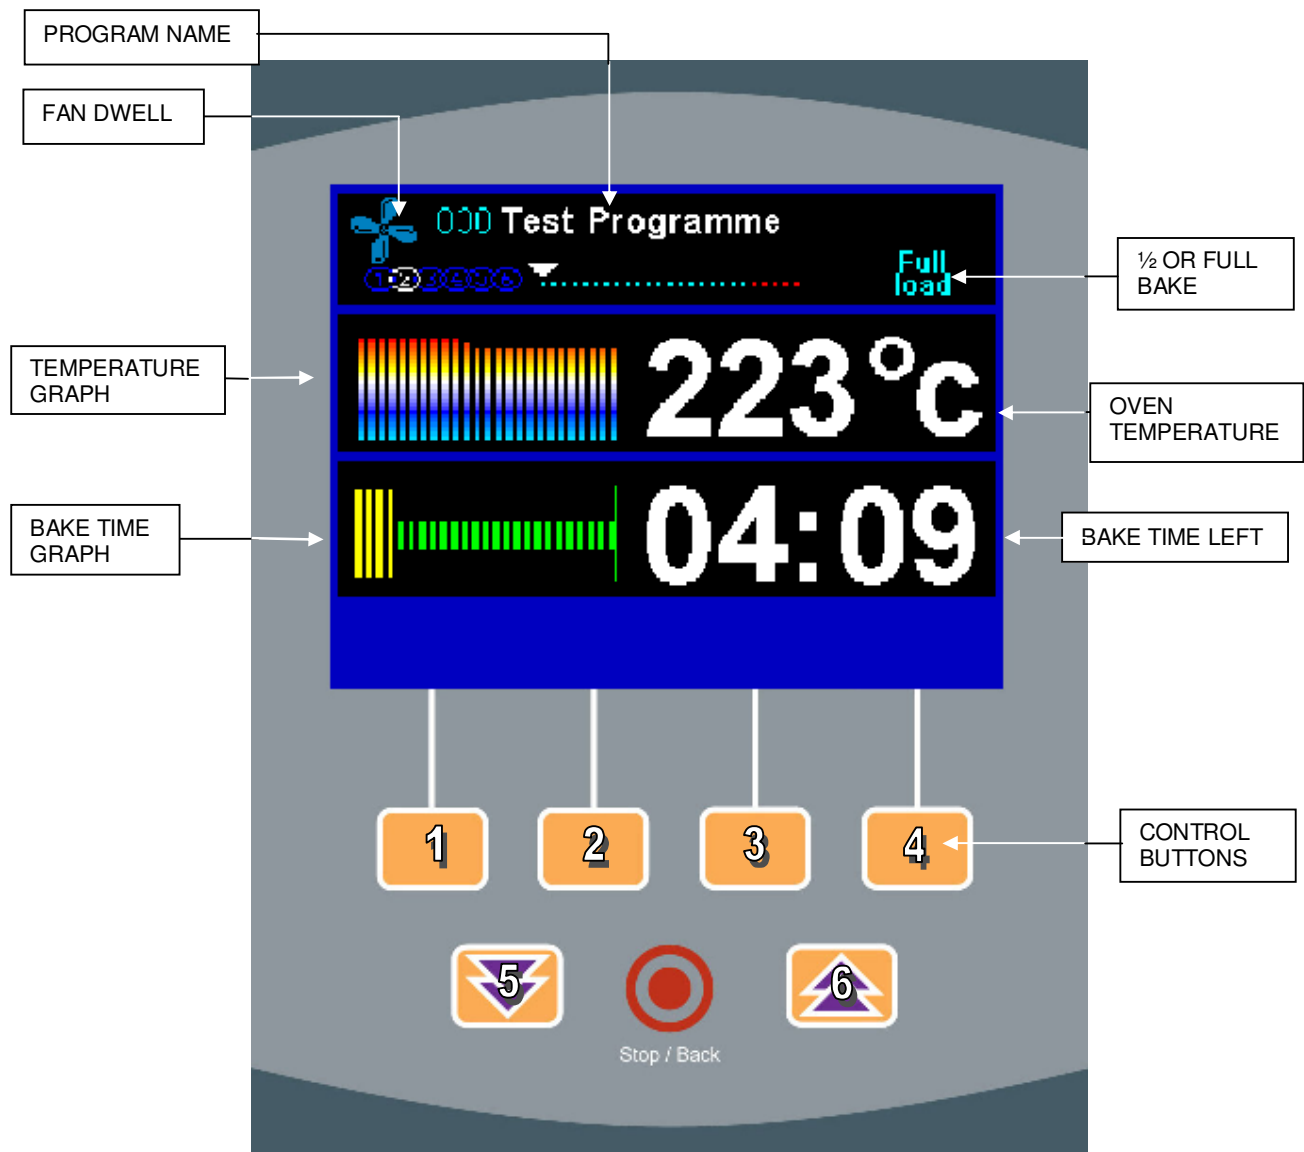

FIG 6
3. Highlight program required by pressing (2) = **down** list. (3) = **up** list
(5)=10 places **down** and (6) = 10 places **up** (see fig 6)